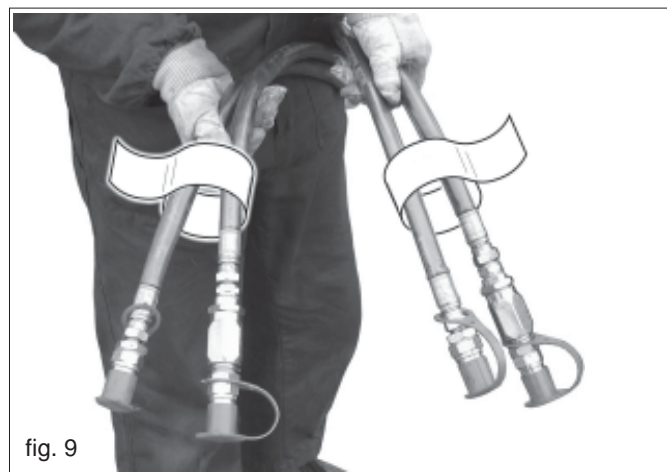

fig. 9
- 4) The hydraulic pipes must be connected correctly to the tractor distributors following the instructions on each pipe (Fig. 9).
The symbols have the following meanings (please see Fig. 9 for reference):